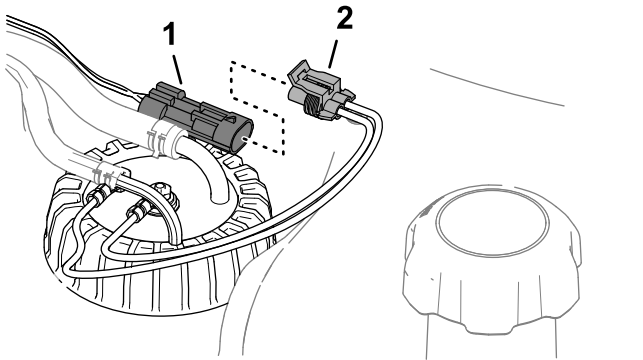

**Figure 126**
- 7. Align the holes in the fuel-sender cover with the holes in the fuel tank, and secure the cover to the tank with the 5 Phillips-head screws (Figure 126).